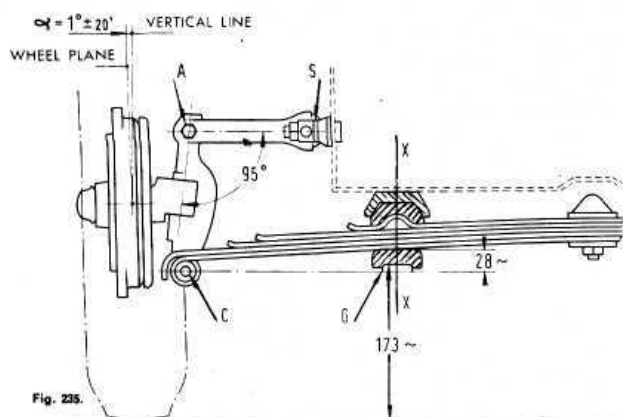

FIG 8:14 Swing arm setting
- 1 Attach Fiat fixture A.66061 to the springs as shown in **FIG 8:12** and load it using the centre screw on the fixture until the index 'Nuova 500' appears below the crossbeam lower edge. It is in this position the spring attains the full static load setting as on the